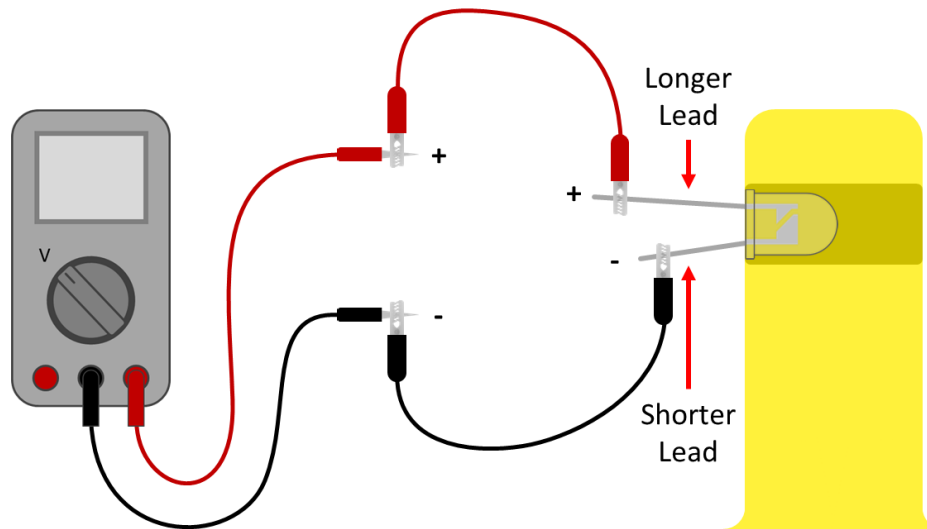

Fig. 5: Voltmeter connected to detector LED via alligator clip wires
9. Use alligator wires to connect the red multimeter probe to the positive (long) lead of the detector LED and the black multimeter probe to the negative (short) lead of the detector LED (see Fig. 5).